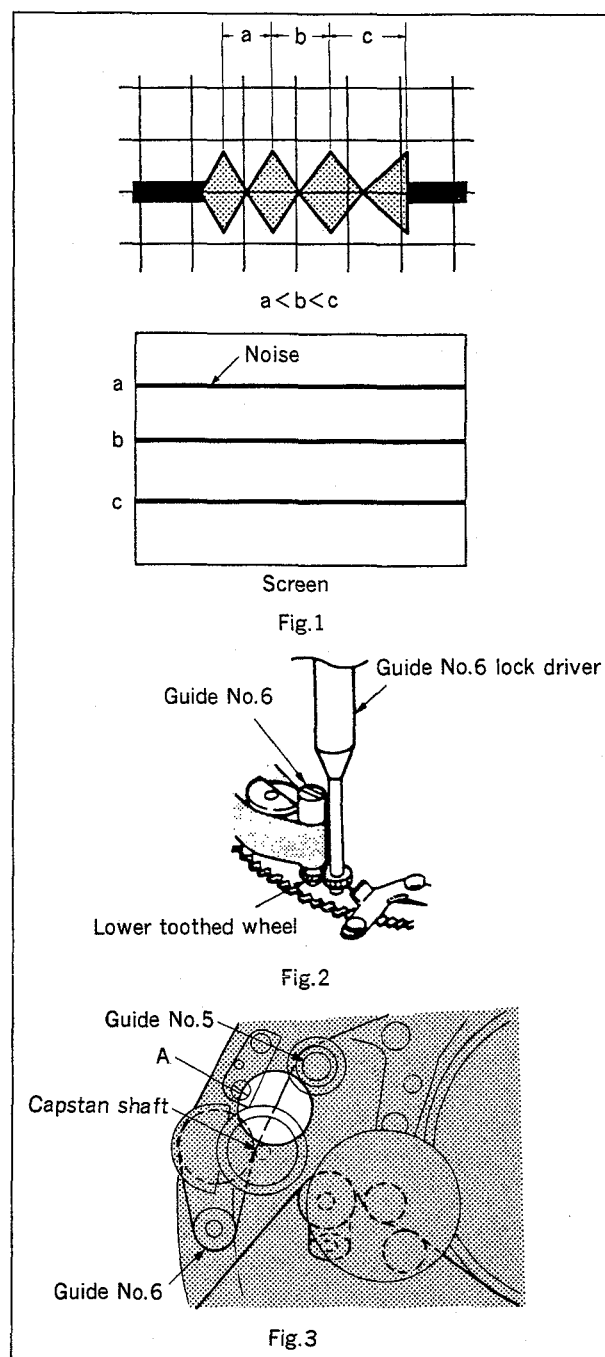

Fig. 6-4-4 Exit side noise pitch adjustment
See Fig. 6-4-4 (1).
5-6. Rotate the lower toothed wheel using Guide No.6 lock driver, in counterclockwise direction to loosen it. (See Fig.6-4-4 (2).)
**Note:** If Guide No.6 is raised too high, tape wrinkle will result at portion-A between capstan and Guide No.5. So check for tape without wrinkle. (See Fig.6-4-4 (3).)